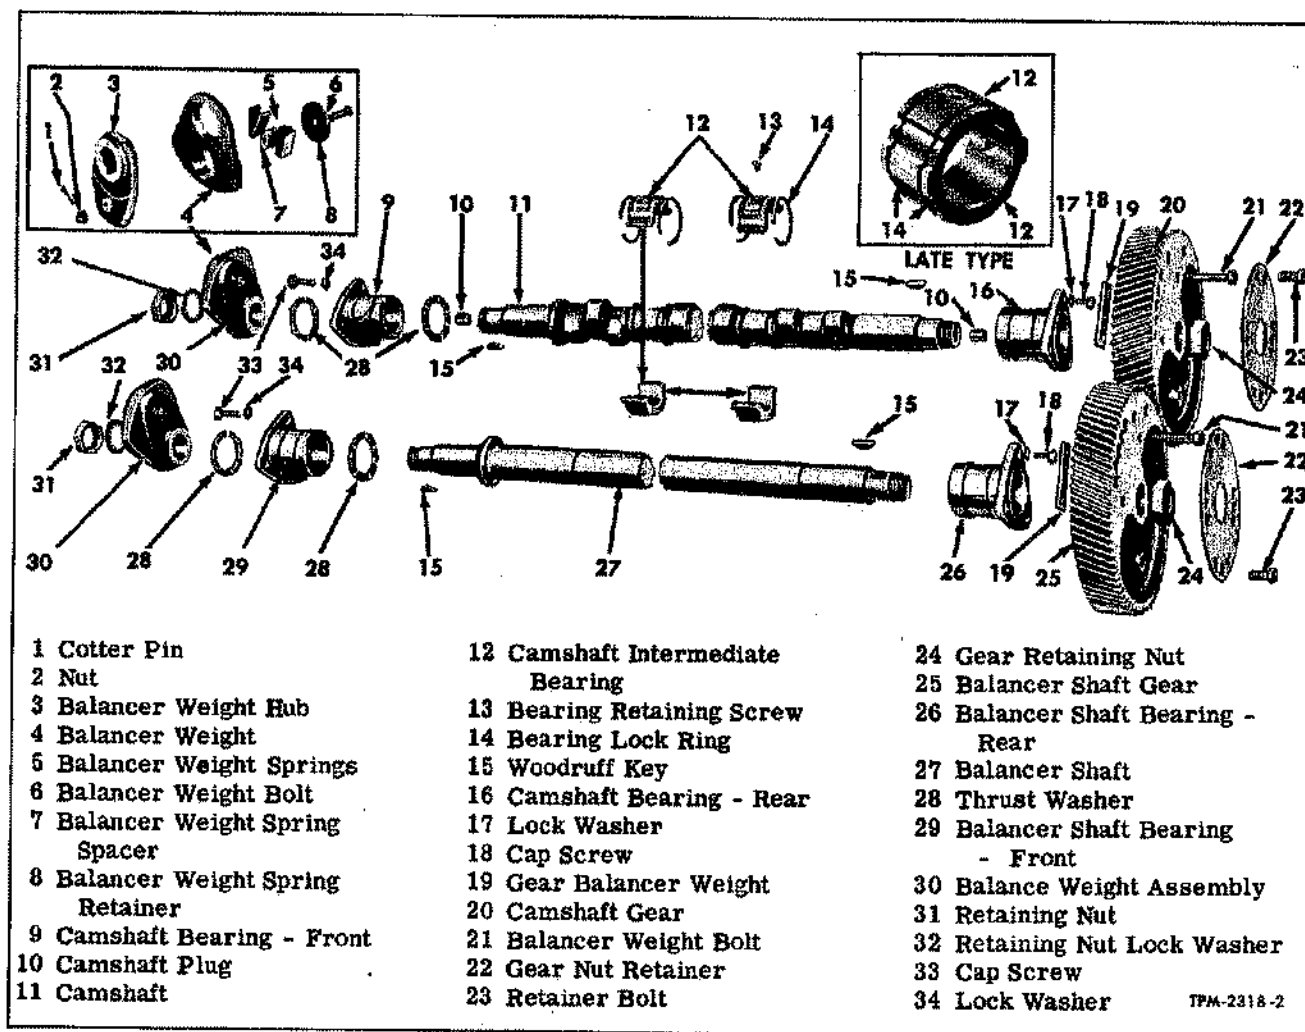

Figure 59—Cam and Balancer Shaft Details
rigid support. Loose steel-backed bronze thrust washers, are used at the thrust end of the shafts. Details of camshaft and balance shaft are shown in figure 59.
Balancer shaft, running parallel to camshaft and at same distance from crankshaft, is located on opposite side of cylinder block. Balancer shaft is supported in same manner as camshaft, except no intermediate bearings are used. End bearings, together with loose thrust washers at the thrust end, are identical with those used on camshaft. Details of camshaft and balancer shaft are shown in figure 59.
In addition to counterweighted gears at rear end, balance weights are used at front end of both camshaft and balancer shaft, as shown in figure 59. Front end balance weights are different for the four and six cylinder engines in that the weights are heavier for the four cylinder than for the six cylinder.
6. Install intermediate bearings on camshaft, and lock the two halves together with two lock rings on each bearing (fig. 59).